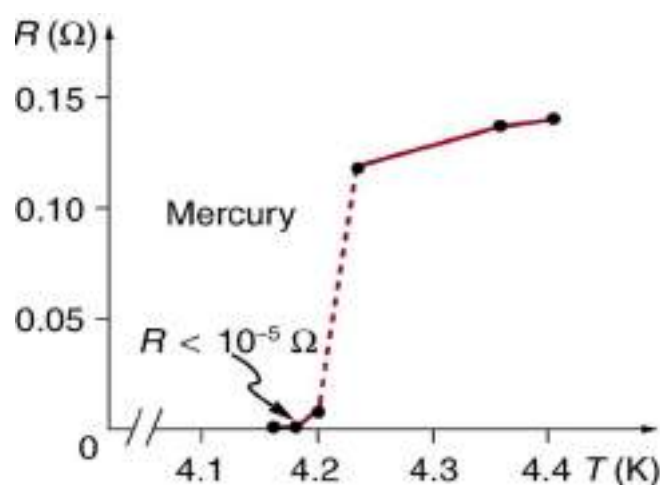

Fig. 1: A graph of resistivity Vs temperature for Hg.
- One of the most significant discoveries resulting from this advancement was superconductivity. In 1911, while studying the electrical resistance of metals at low temperatures, Onnes observed that the electrical resistance of highly purified mercury suddenly vanished at 4.15 K, as illustrated in Fig 1. This phenomenon, characterized by the abrupt drop to zero electrical resistance, is known as superconductivity. Materials exhibiting this property are referred to as superconductors.